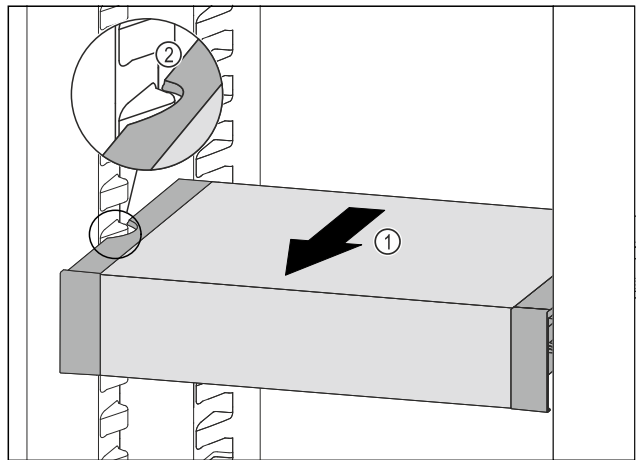

Fig. 205
- ▶ Pull VarioSafe forwards Fig. 205 (1) until the recesses in the side of the VarioSafe are at the level of the support rib in the fridge section. Fig. 205 (2)